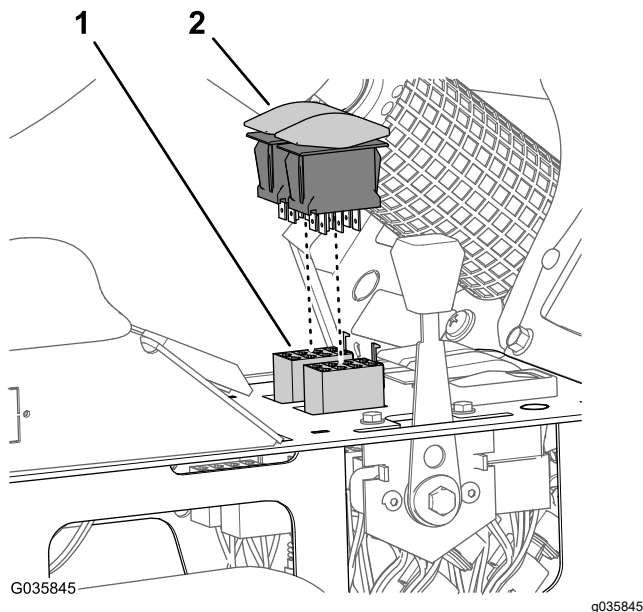

Figure 39
2. Remove the rocker switches for the left and right boom-lift controls from the center-console panel (Figure 39).
3. Disconnect the 8-socket connectors of the wiring harness for the machine from the boom-lift switches for the left and right boom-lift control circuits (Figure 39).
4. Connect the rocker switches into the 8-socket connectors of the wiring harness for the ultra sonic boom finishing kit (Figure 39).
5. Insert the boom-lift switches in the openings in the center-console panel until the switches snap securely (Figure 39).